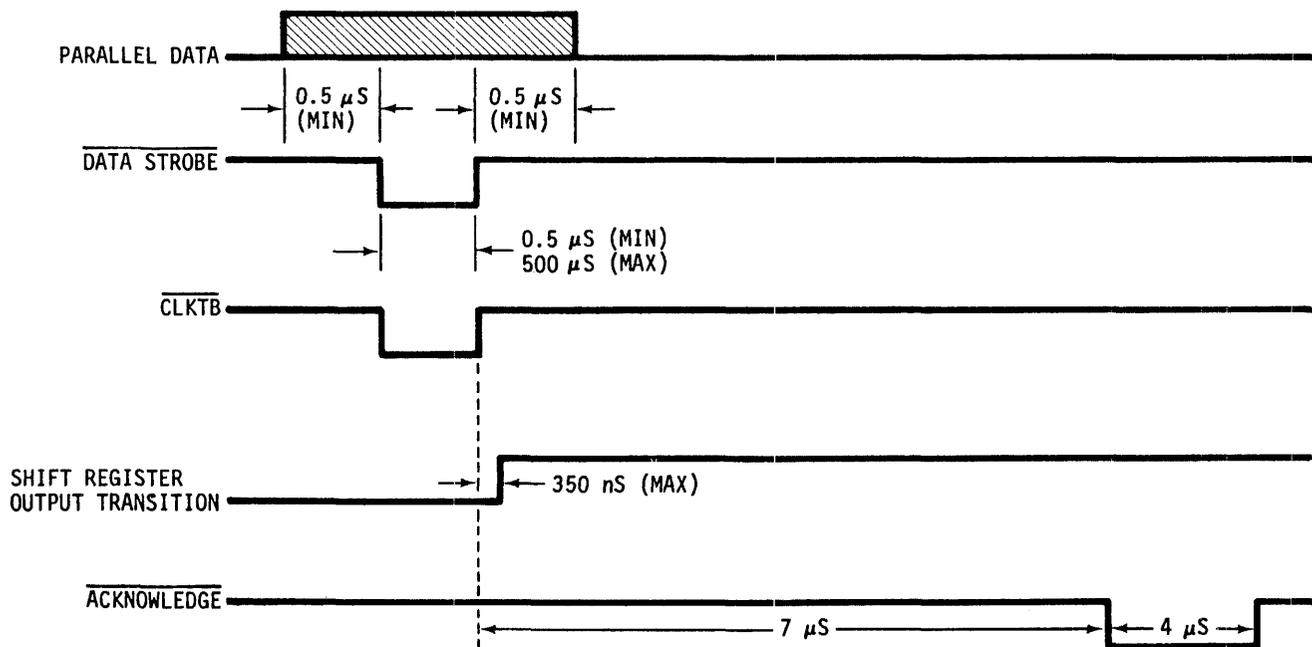

Figure 4-7. INPUT DATA TIMING - NO BUSY CONDITION
4.4.1 GENERAL (Figure 4-7/4-8)
The diagram in Figure 4-7 shows the timing involved in transferring data, which does not cause a busy condition.
As shown in the timing diagram of Figure 4-7, the data lines must be stable at least 0.5 usec before and after DATA STROBE, and the DATA STROBE pulse must be at least 0.5 usec wide. As a standard feature, the 101A will not recognize a data strobe during the acknowledge delay interval. As an option, however, a non-gated data strobe is available.
4.4.5 CLOCKING INPUT DATA INTO THE BUFFER (Figure 4-7, 4-12)